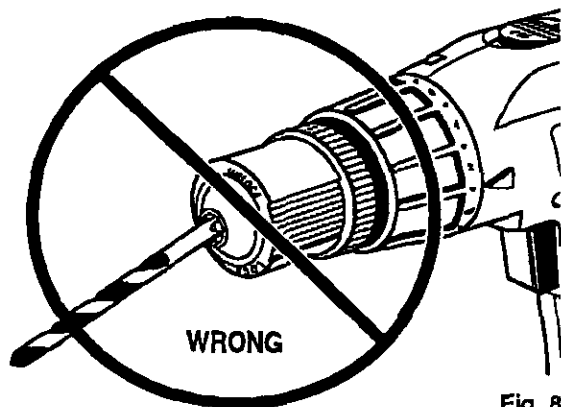

Fig. 8
**⚠ WARNING:** Make sure to insert drill bit straight into chuck jaws. Do not insert drill bit into chuck jaws at an angle then tighten as shown in Figure 8. This could cause drill bit to be thrown from drill, resulting in possible serious personal injury or damage to the chuck.